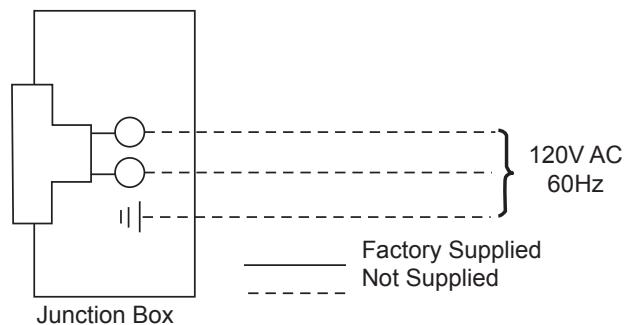

Figure 52 -
3. The junction box cover has a factory installed "romex" style strain relief connector. After connecting the wires, route the wire leads through this connector. Refer to the wiring diagram in *Figure 52*.